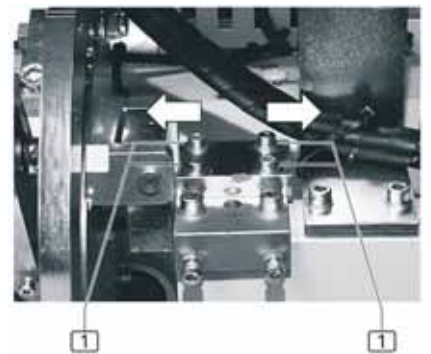

fig. 27
2. **fig. 27:** Loosen the four fastening screws **1** of the holder.